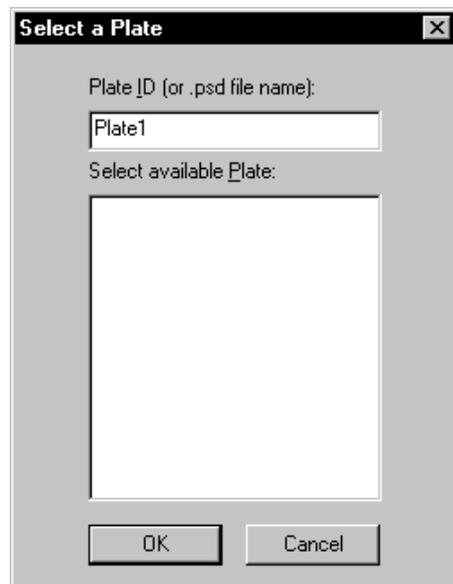

Figure 7-7. The Select a Plate window.
1. In the Instrument Control window, with the **Inject Samples and Run** protocol selected, click **Start**. The Select a Plate window appears (figure 7-7).